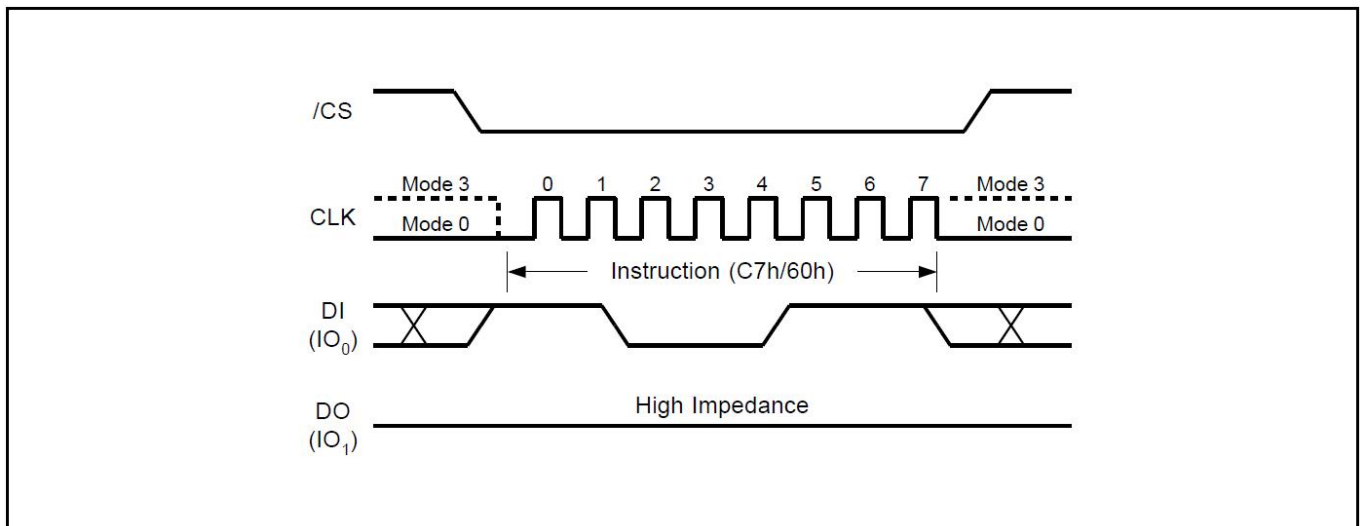

Figure 19. Chip Erase Sequence Diagram
The Deep Power-Down Mode automatically stops at Power-Down, and the device always in the Standby Mode after Power-Up. The Deep Power-Down command sequence: CS# goes low → sending Deep Power-Down command → CS# goes high. The command sequence is shown in Figure19. CS# must be driven high after the eighth bit of the command code has been latched in; otherwise the Deep Power-Down (DP) command is not executed. As soon as CS# is driven high, it requires a delay of t_{DP} before the supply current is reduced to ICC2 and the Deep Power-Down Mode is entered. Any Deep Power-Down (DP) command, while an Erase, Program or Write cycle is in progress, is rejected without having any effects on the cycle that is in progress.